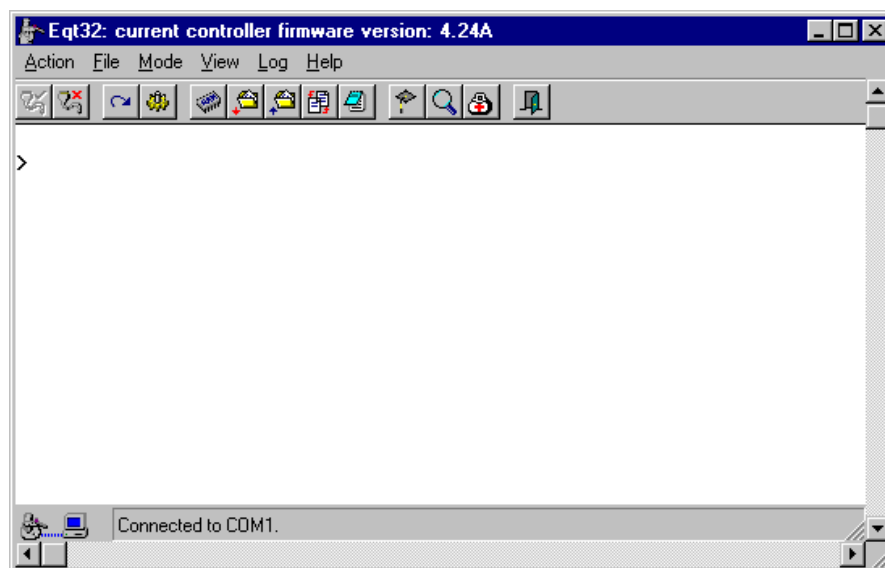

Figure 3-6: Terminal Mode Window
5. To execute EQT 32, click the EQT icon. The Terminal Mode window opens (Figure 3-6 on page 3-11).